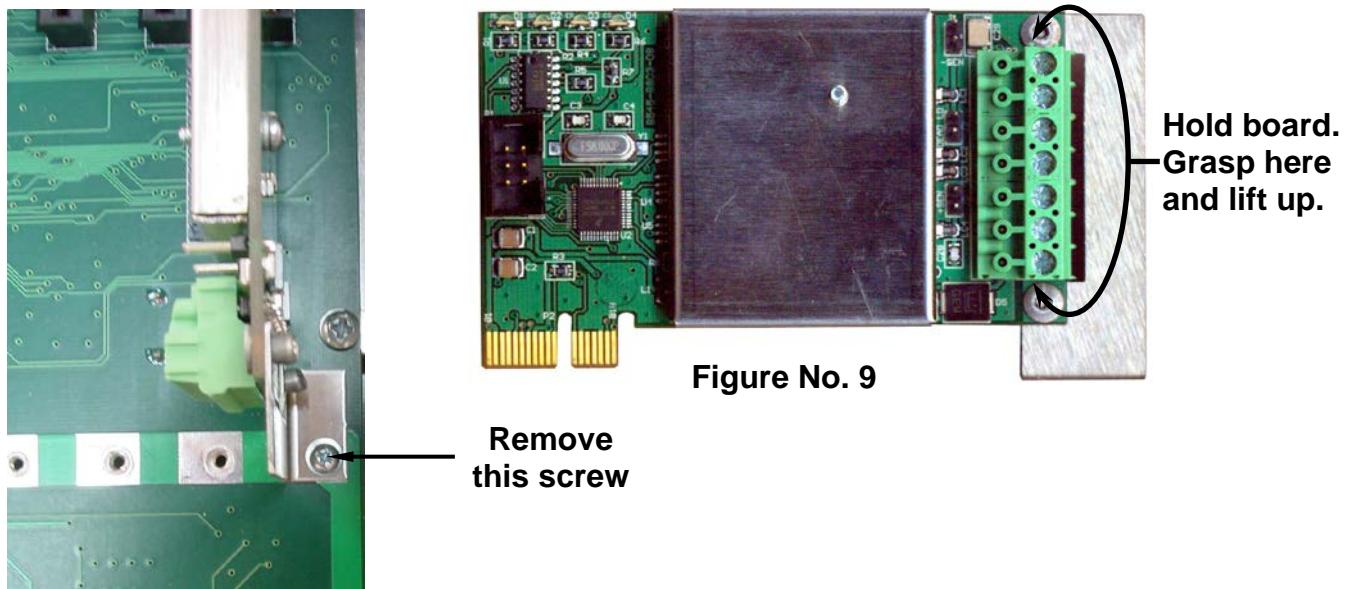

Figure No. 6
3. Referring to Figure No. 6, route the single cable from the load cell or load cell junction box through the nut and plastic insert and into the base enclosure.
4. With the load cell cable routed into the base enclosure, refer to Figure No. 6 and then remove approximately 6 inches of the cable outer insulating jacket exposing the internal wires.